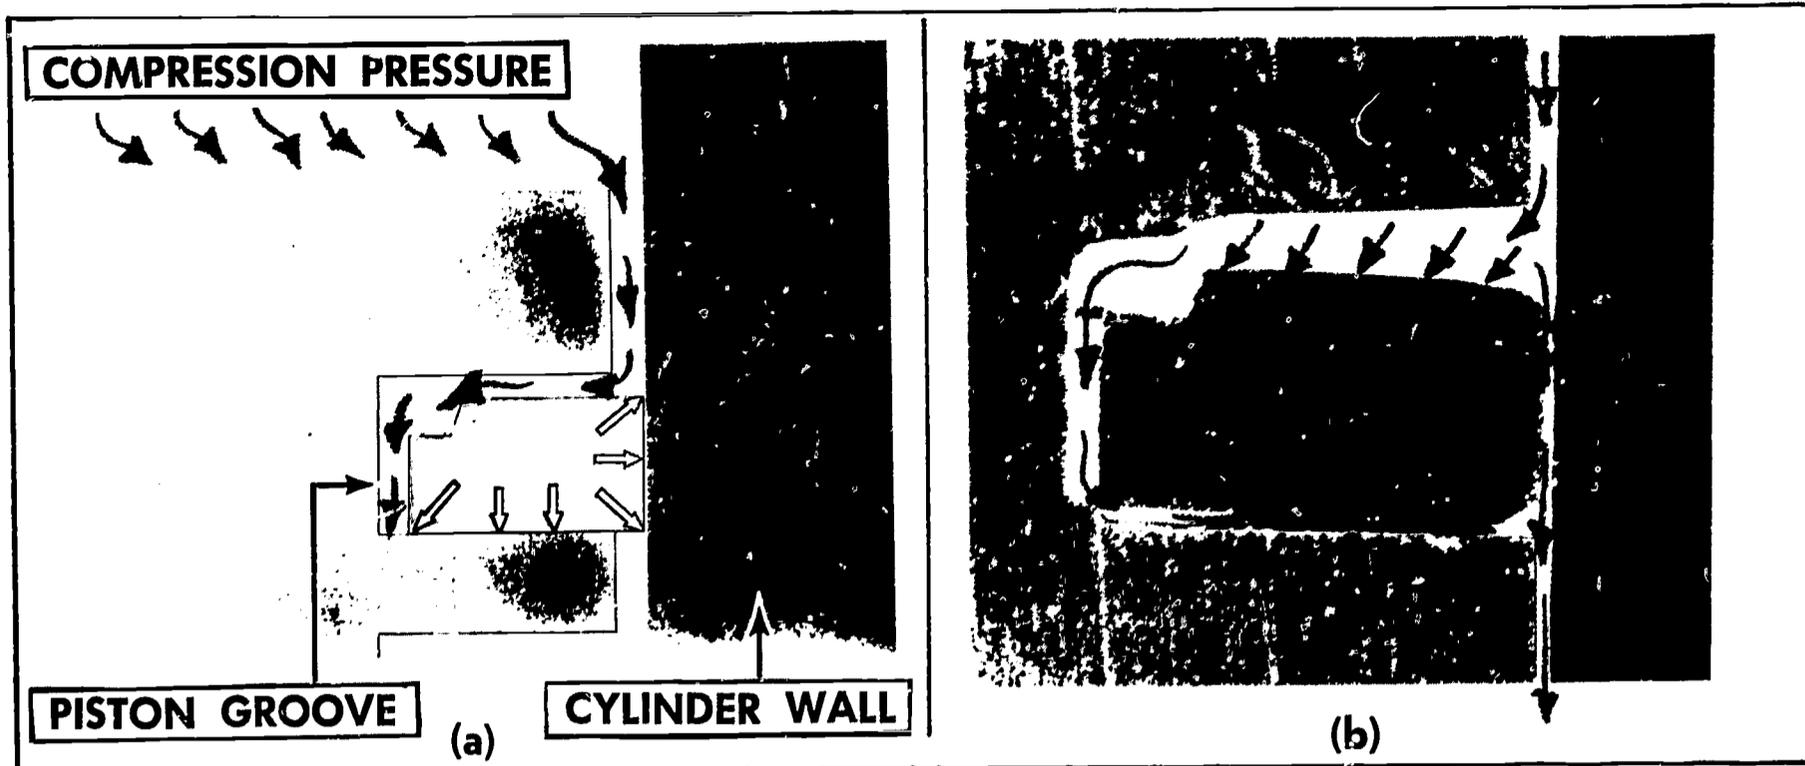

FIGURE 232. (a) On compression stroke the compression ring seats against the cylinder wall and the bottom of
The seal between the piston ring and the cylinder wall takes place at two areas of contact (Figure 232): (1) **the cylinder wall** and (2) the **piston groove** (either top or bottom depending upon the direction of pressure). When the piston is being forced downward, the contact points are as shown in Figure 232. When the piston is moving downward on the intake stroke, the seal shifts to the top of the piston groove.